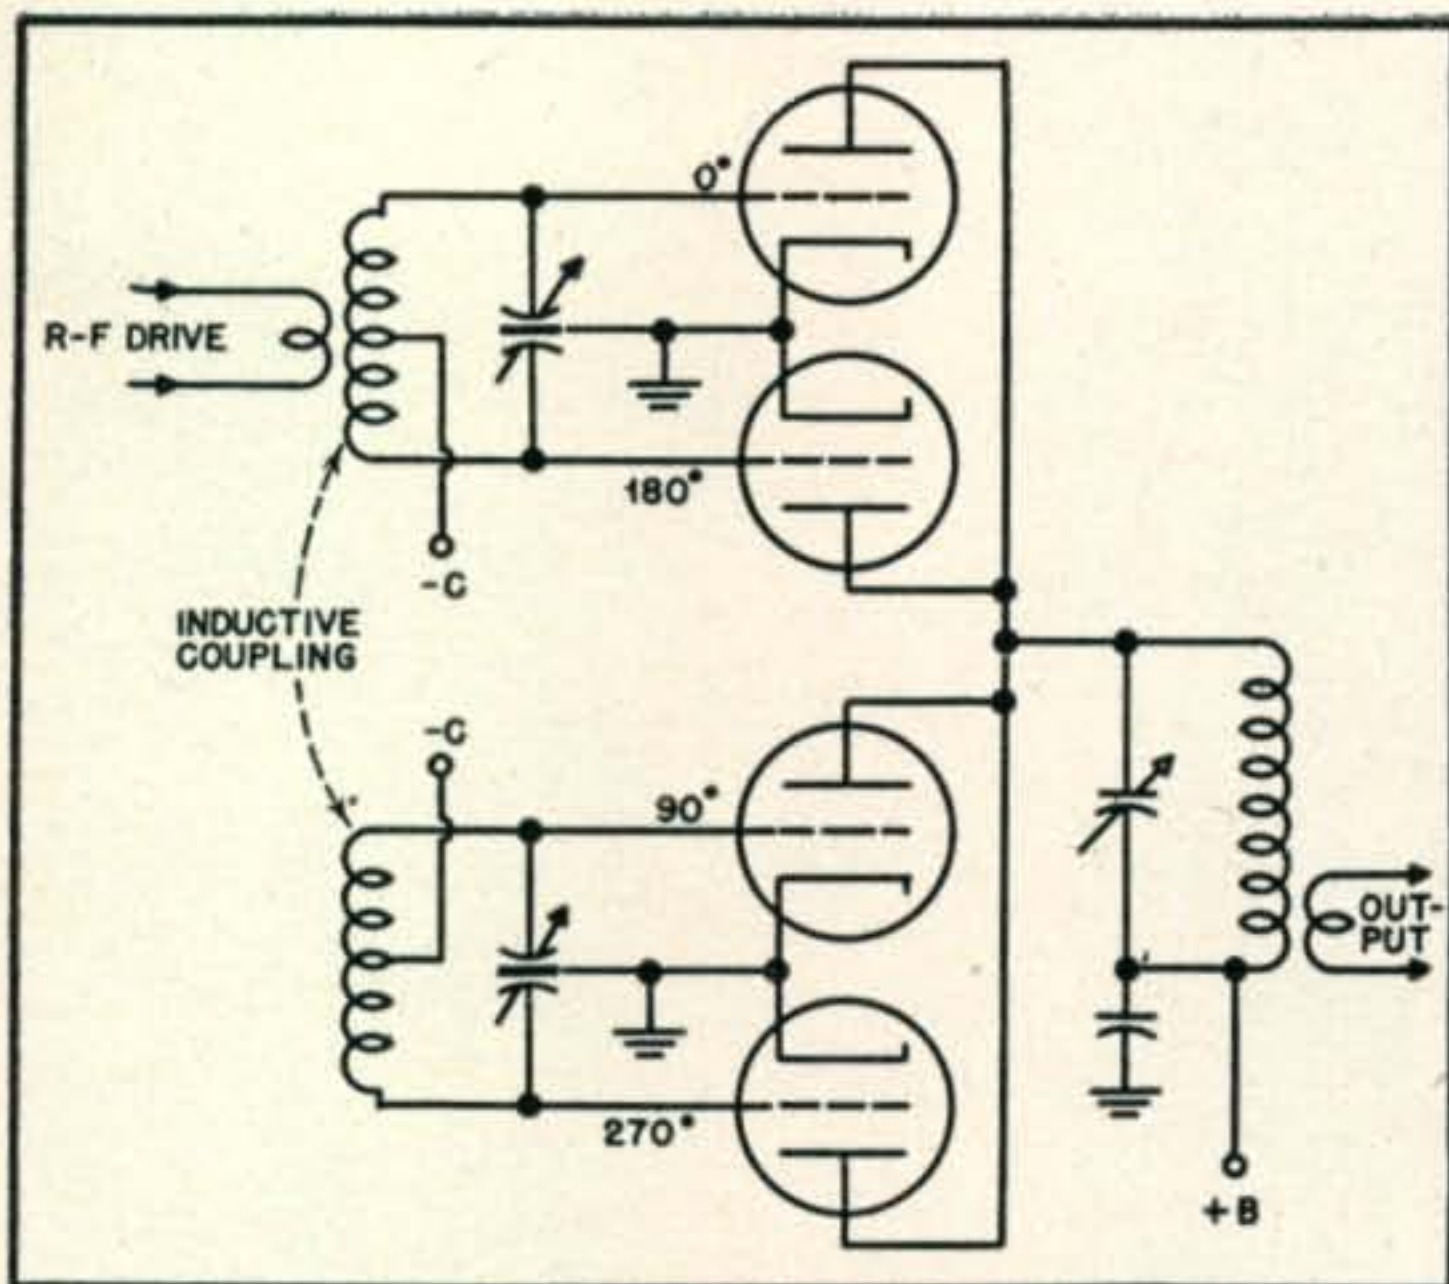
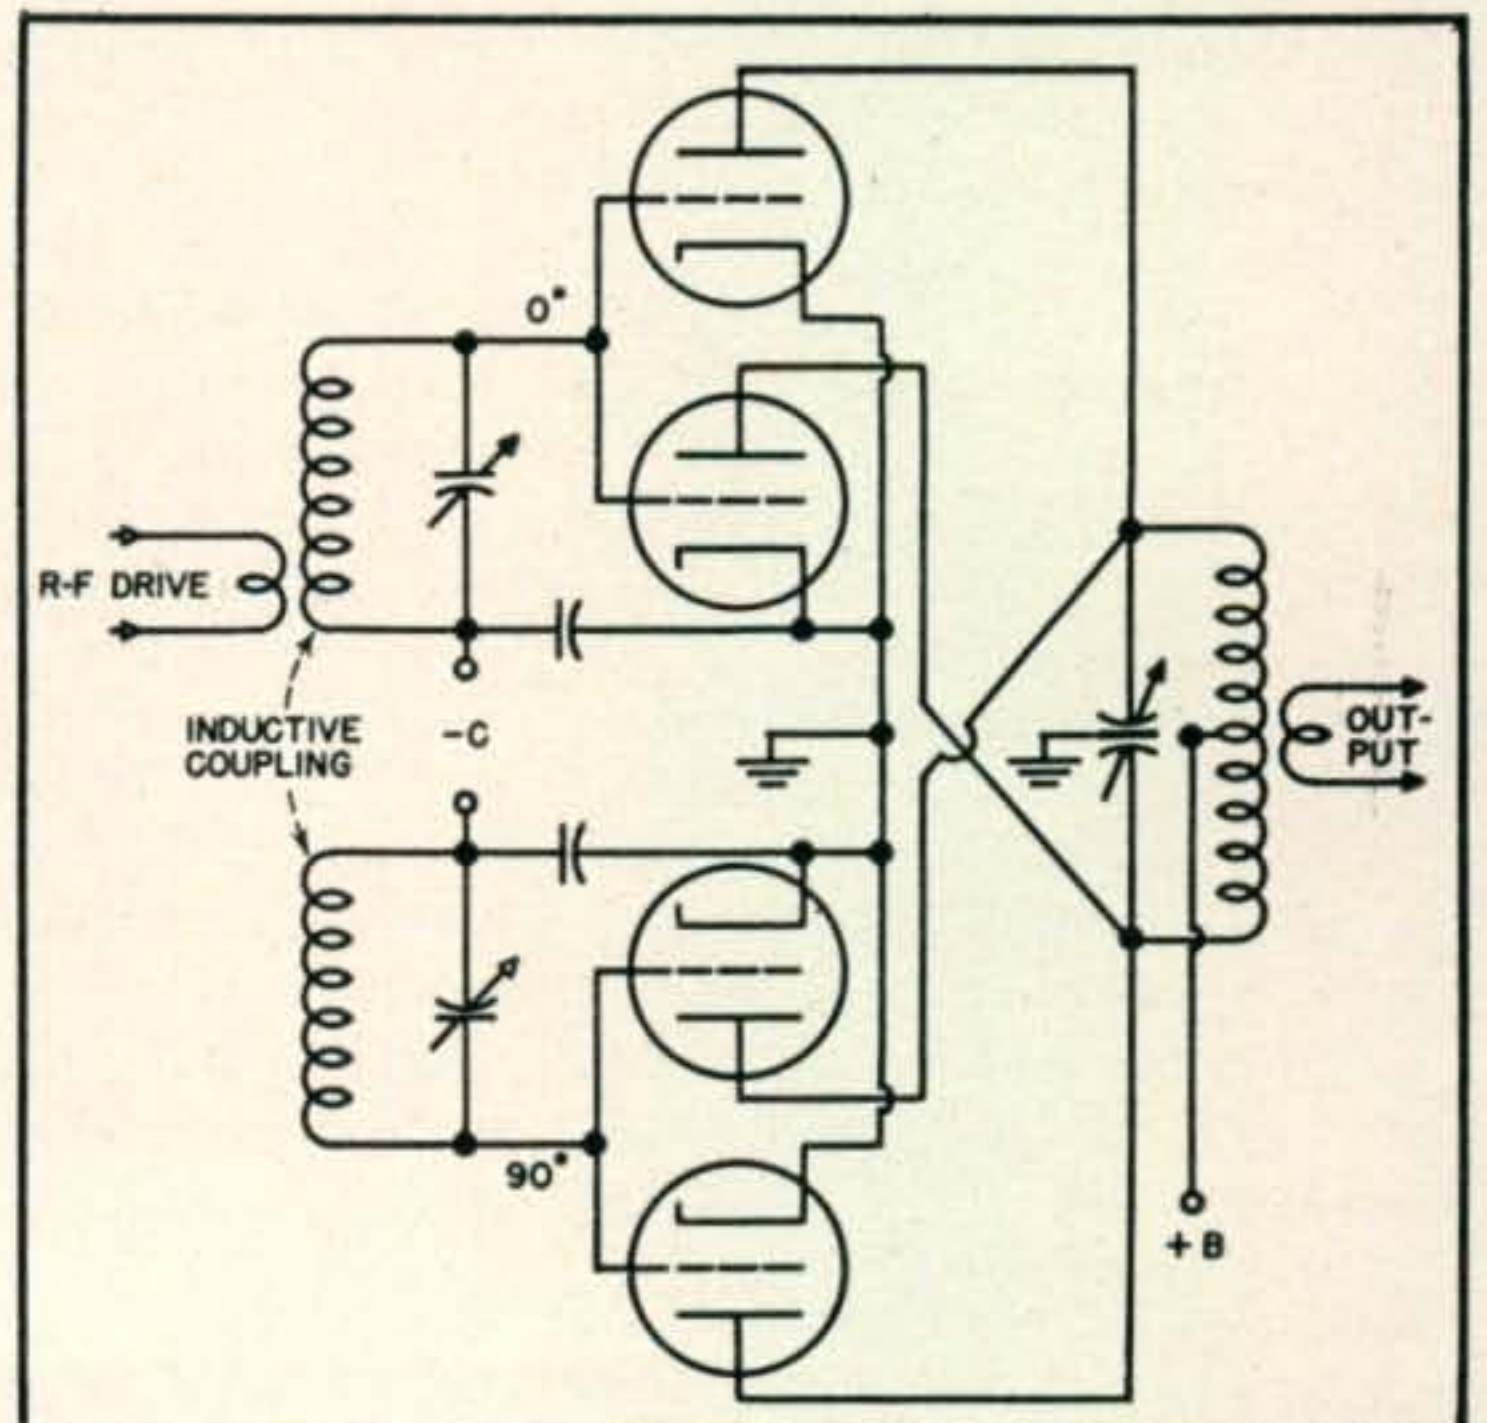
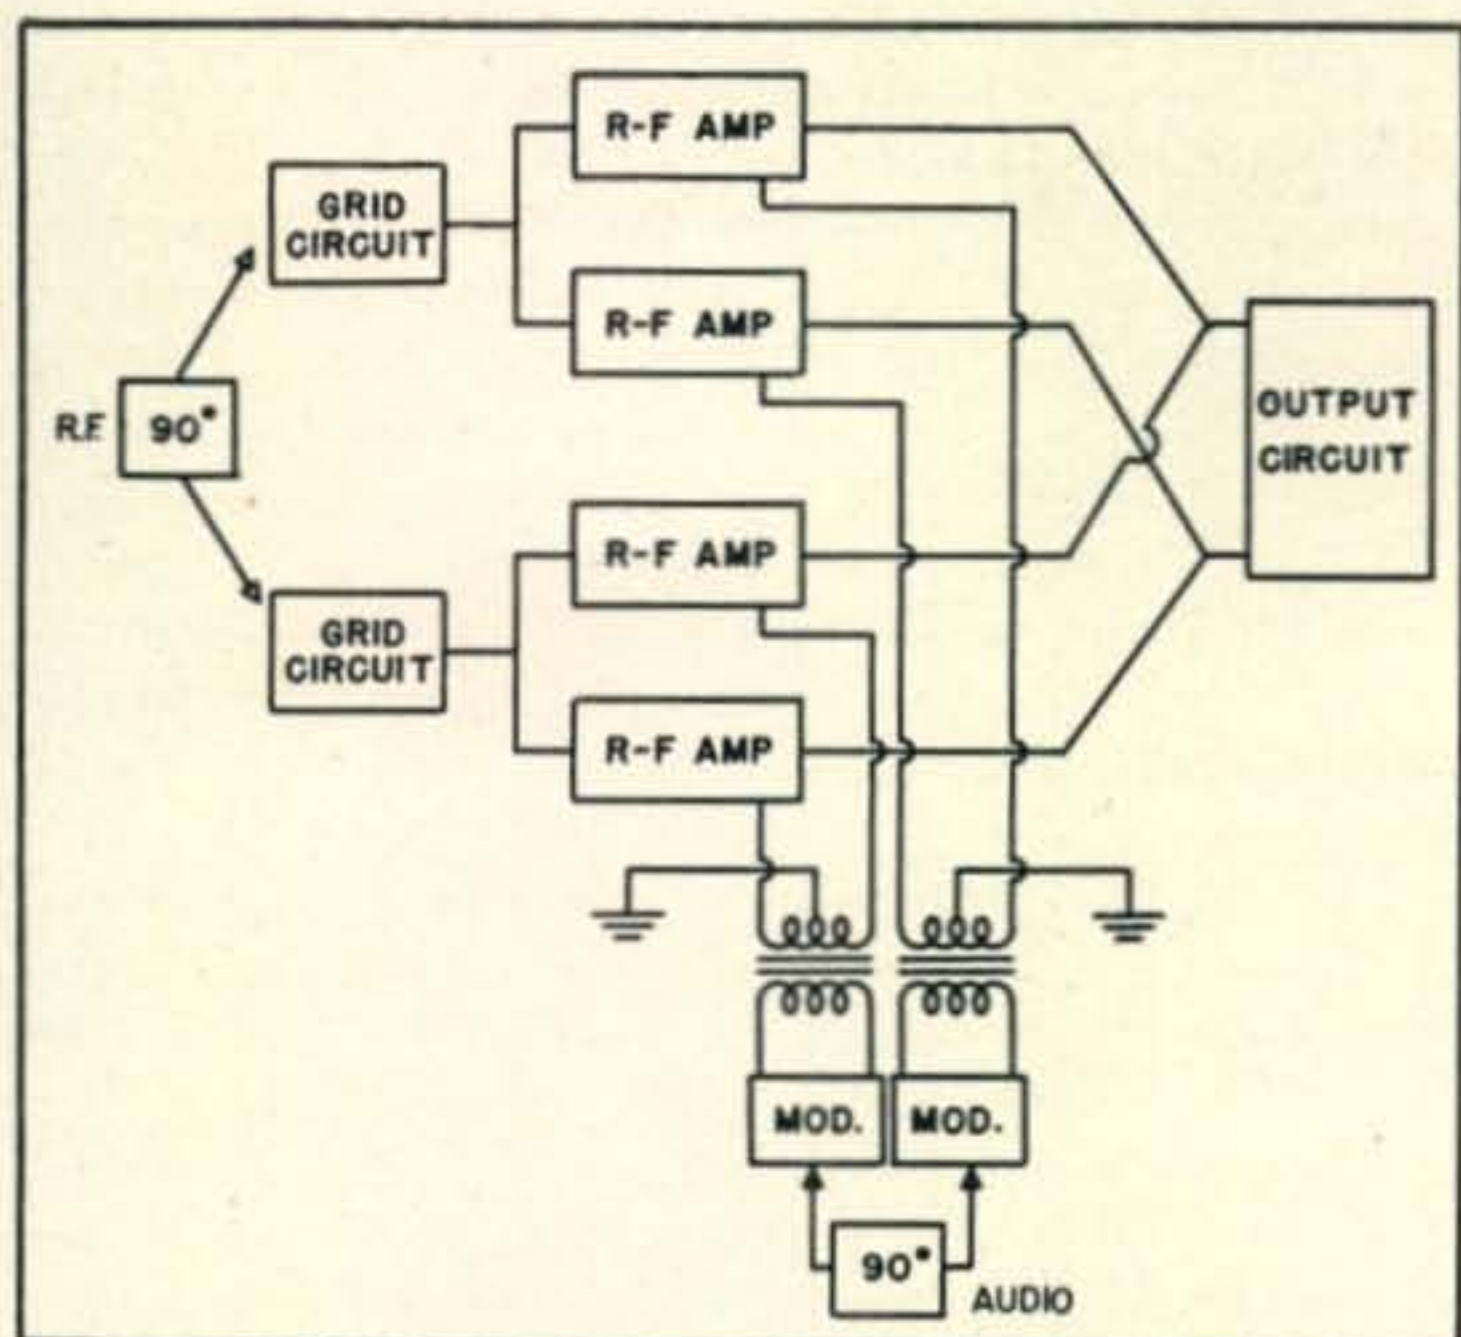

Fig. 2. One basic SS r-f circuit.
Fig. 3. Alternative basic r-f circuit.
Fig. 4. Block diagram of complete SS generator.
Requirement (1) above can be met in several ways. *Figure 2* shows one possibility. Here a pair of two-tube amplifiers are used with the grid circuit of each amplifier consisting of an ordinary split tank such as is used to drive push-pull tubes 180 degrees out of phase. Excitation is supplied to one grid circuit by a conventional link, while the second circuit receives excitation by inductive coupling from the first. Two circuits inductively coupled and tuned to the same frequency develop voltages 90 degrees apart in phase, so the required 90-degree phase shift between tubes is obtained. If the grid voltage on the upper tube in *Fig. 2* is assigned a reference phase of 0 degrees at some particular instant, the other three tubes are seen to have relative grid voltage phases of 180, 90 and 270 degrees. To add the outputs of the four tubes in a common output circuit, the four plates are merely tied together and connected to a single tank circuit.
The arrangement of *Fig. 3* accomplishes the same thing as *Fig. 2*, as far as the output is concerned, be-
cause the tubes which are excited in parallel induce voltages 180 degrees out of phase in the load circuit, due to being connected to opposite ends of the plate tank circuit. An advantage of *Fig. 3* is that single-ended circuits are used in the portion of the unit where the 90-degree phase shift must be produced, and any simplification of the phase-shifting section tends to simplify the adjustment of the amplifier. The balanced plate circuit of *Fig. 3* is also somewhat easier to handle in a practical amplifier than the single-ended arrangement.
The amplifiers of *Figs. 2* and *3* will not deliver any output if they are used as shown. In either case, the phasing is such that the excitation-frequency is canceled in the output. If, however, the amplifiers are unbalanced by changing the outputs of the individual tubes in respect to each other, there will be a net output in the load circuit. If a fixed, or "static," unbalance is introduced, the r-f excitation frequency appears in the output. If a regularly varying unbalance is introduced by applying the four modulator voltages in such a way that each pair of tubes which is driven from the same grid circuit gets 180-degree-shifted modulation, with the 90-degree audio shift being between tubes connected to different grid circuits, the unbalance under modulation is such that a single sideband is produced. As there is no unbalance when there is no modulation, the excitation, or "carrier," frequency does not appear in the output. *Figure 4* shows in block form how the audio is applied to the r-f arrangement of *Fig. 3* to produce SS output.
Rather than couple the excitation directly to L_1 , as suggested in Fig. 3, a small mutual inductance, L_3 , is used. L_3 is connected between the bottom end of L_1 and ground, and the incoming coaxial line is connected across L_3 . The purpose of this method of connection is to reduce the direct inductive coupling from L_2 to the excitation, which might occur if an ordinary link were used around L_1 . L_3 is mounted at right angles to L_1 and L_2 . The whole grid circuit consisting of L_1 , L_2 , L_3 , C_1 and C_2 is arranged to plug in as a unit, to allow band changing. Details of the grid-circuit construction will be given later. A dual capacitor, C_7 , is provided for retuning both grid circuits simultaneously, if necessary, when changing frequency within a band.